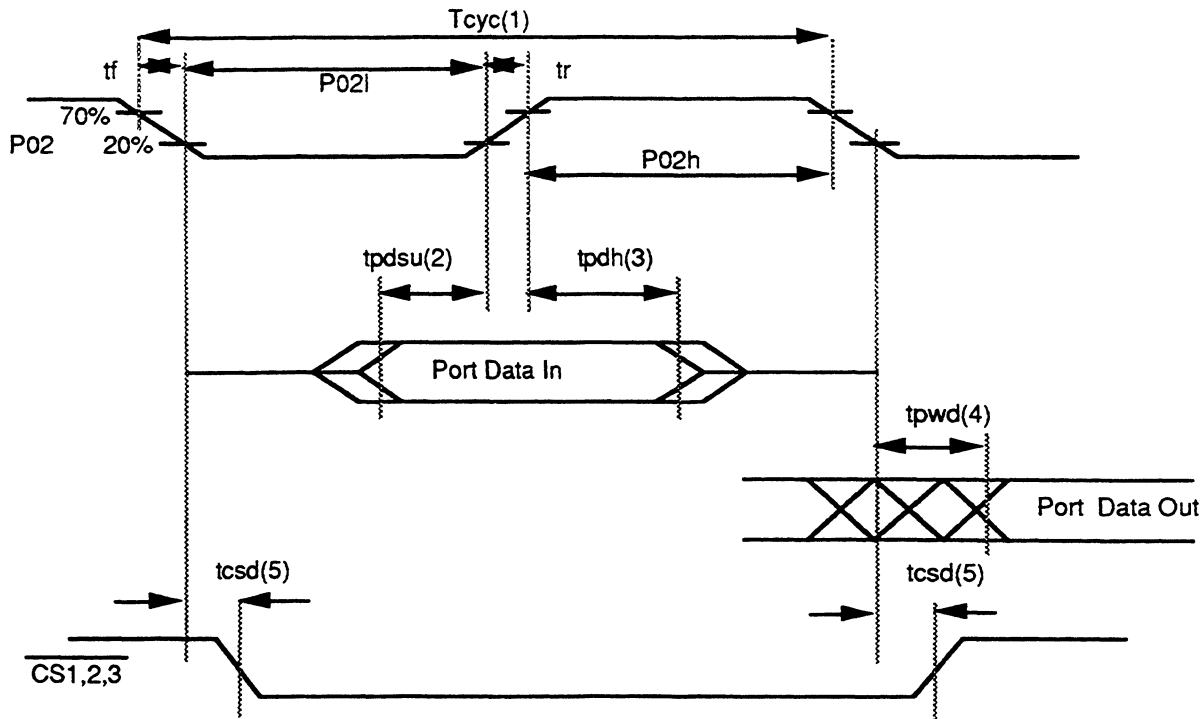

Fig 9.3 Port/Slave CS- timing
9.7 PORT/SLAVE SELECT CTL TIMING (Vdd=5.0Vdc±10%, Vss=0Vdc, TA=0 to 70 deg. C, see Figure 9.3)